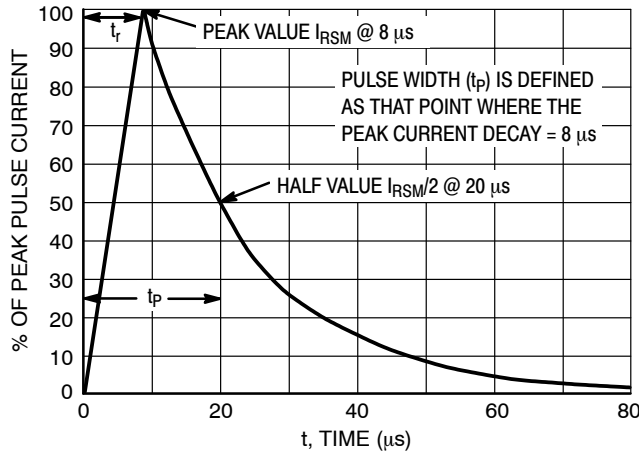

Figure 10. 8 x 20 μs Pulse Waveform
- Non-repetitive current pulse at T_A = 25°C, per IEC61000-4-5 waveform, See Figure 10.